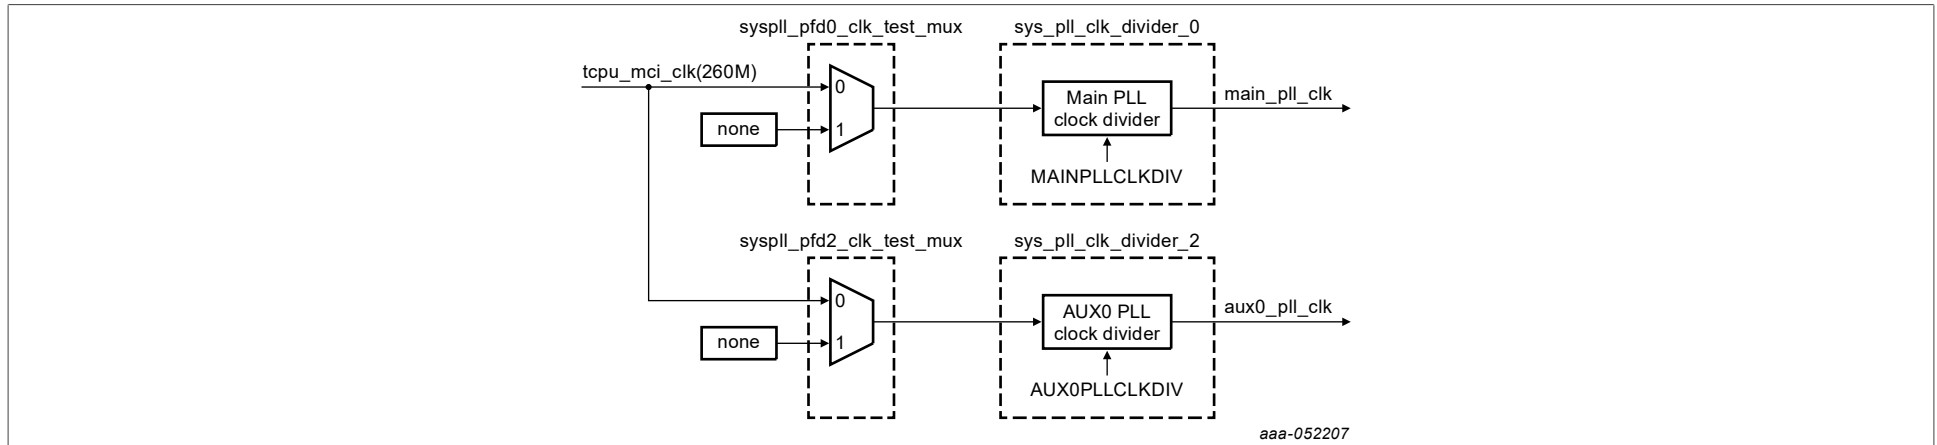

Figure 11. Clock generation - System PLLs
- Figure 11 "Clock generation - System PLLs"